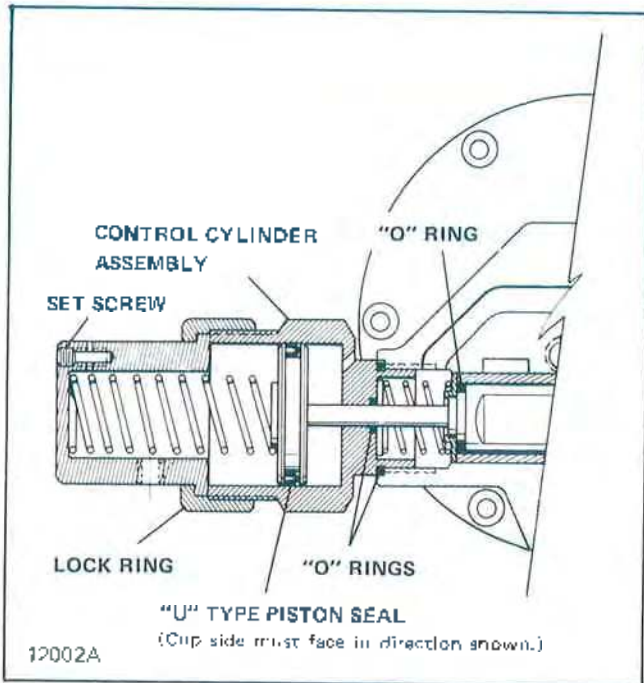

Figure 7-14. Section View Showing Assembly of Control Cylinder on Control Head (Pendant Throttle Control Models).
(2) Lift muffler and screen from recess in control head housing.
(3) On pendant throttle control models, remove control cylinder assemblies from each side of control head housing (Figure 7-14). On pull cord control models,
(2) Use new "O" ring seals at each end of valve. Install spring guides and valve springs in holes on each side of housing and secure with spring retainer (pull cord models) or control cylinders (pendant throttle control models). Use new "O" ring gaskets.
(3) At reassembly of control cylinders (pendant throttle control models), use new "U" type seals on piston heads and "O" ring seals on piston stems. Be sure "U" type seals face direction illustrated in Figure 7-14.
(4) Use new "O" ring gaskets on adjusting screws. When installing screws in control head housing, turn them in until heads are flush or slightly below face of housing. Adjustment is accomplished during testing of hoist, paragraph 2-4.
(5) At reassembly of screen and air inlet swivel, install a new "O" ring seal inside swivel bushing.
(6) In mounting control head housing on hoist, use a new motor-to-head air seal gasket and a new head-to-frame gasket.